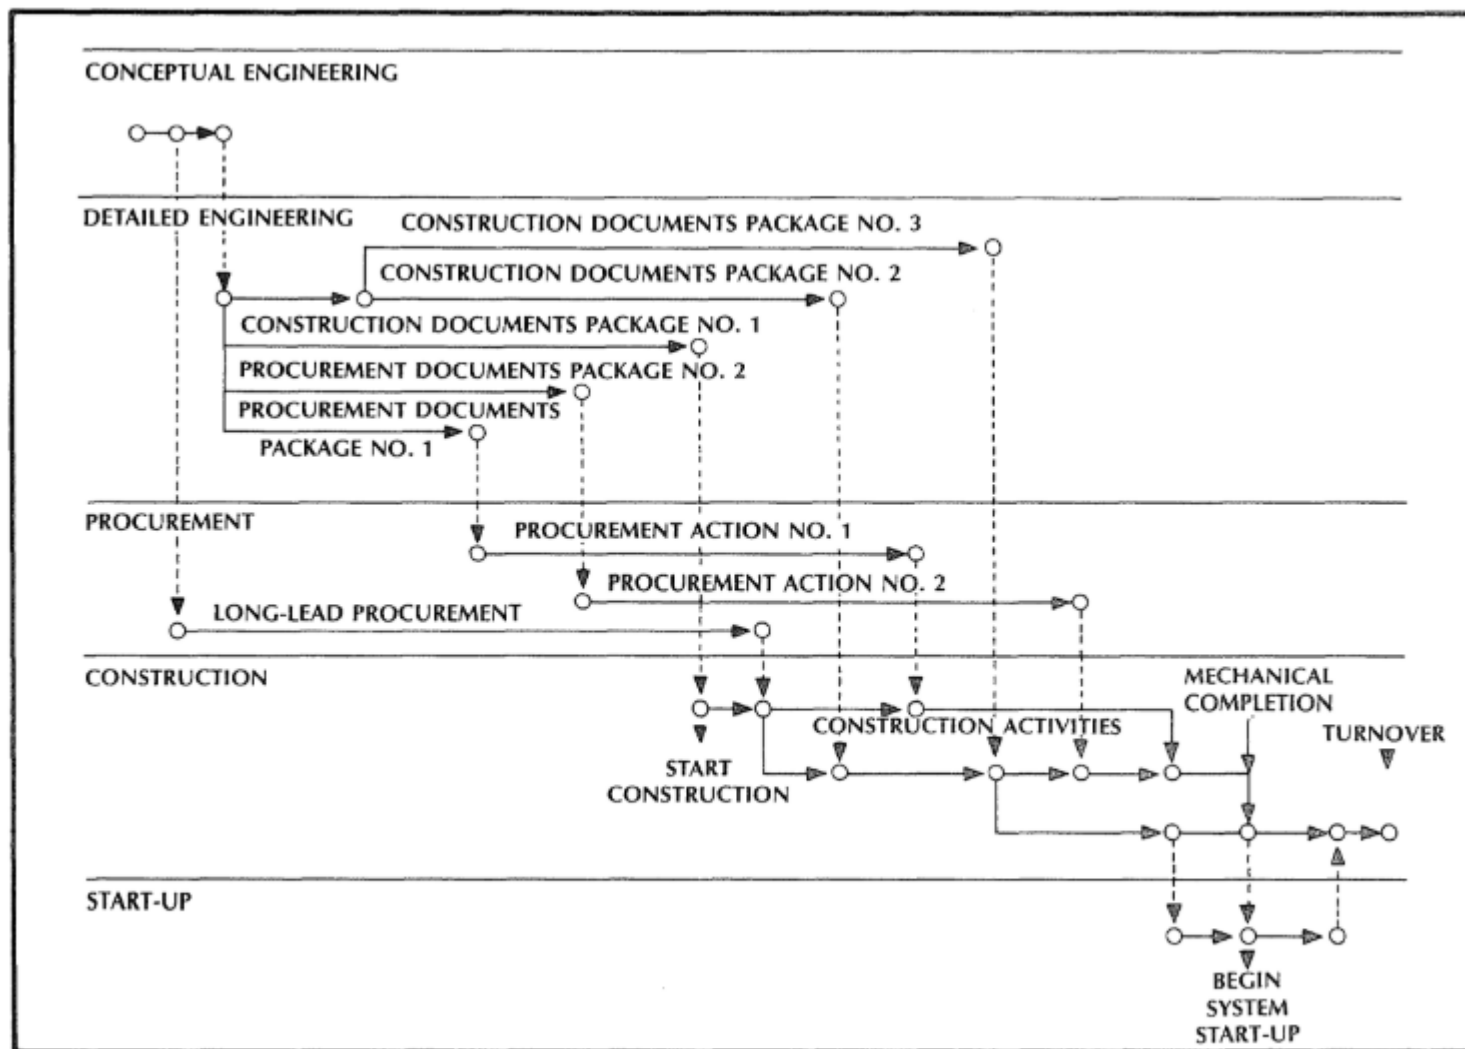

Figure 8. General Logic EPC Project
- ❑ A **logic diagram** which illustrates the major EPC phase activities and their interrelationships is displayed in **Figure 8**.